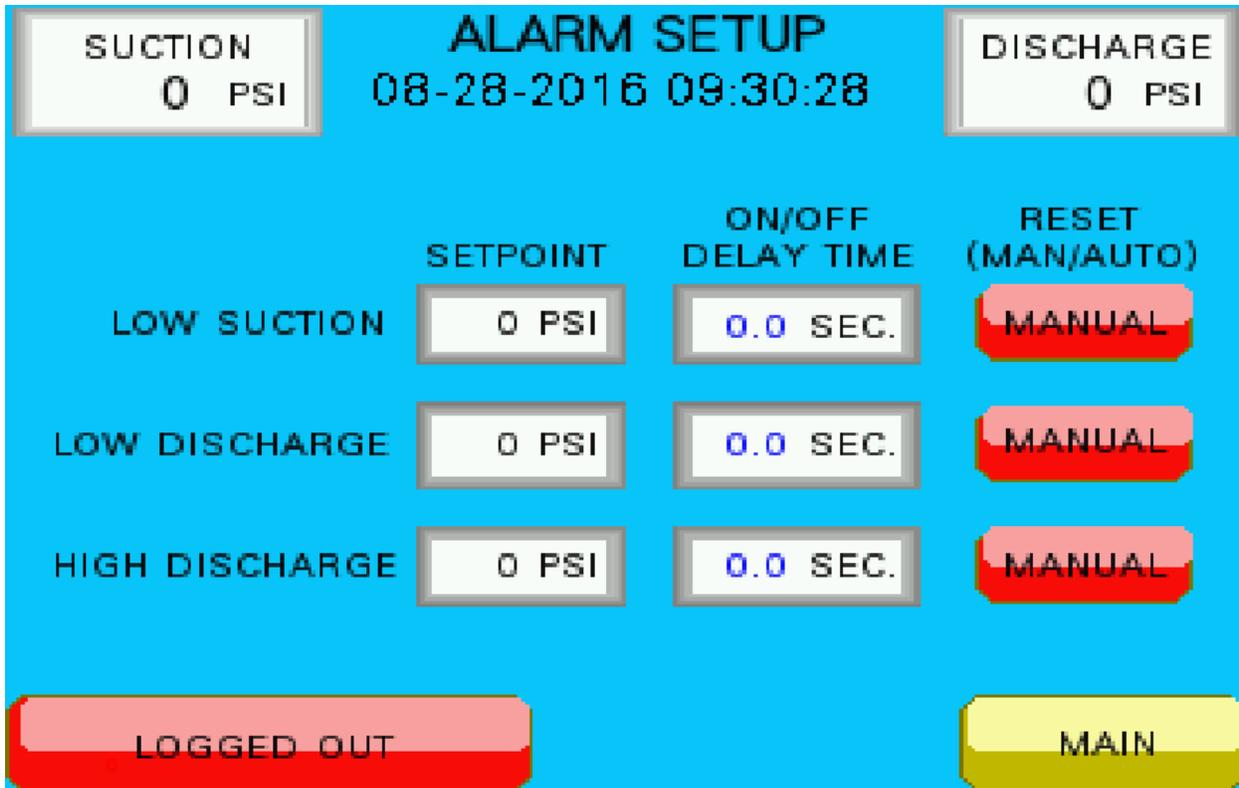

Figure 1.8
10. From the MAIN screen press the ALARMS SETUP button. This will take you to a screen that looks like figure 1.8 below. (If your system utilizes a Float switch rather than a suction transducer the suction alarm settings will not be available.)